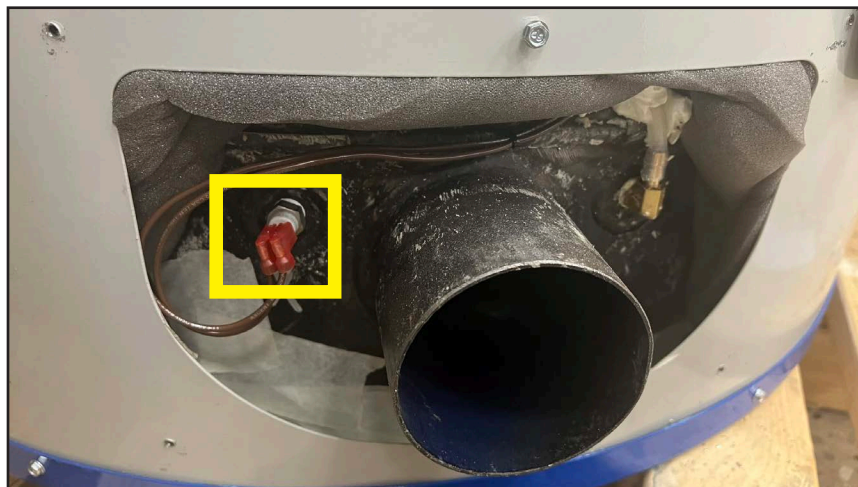

Fig. 26
5. Remove both ¼" flag terminal quick connects from the sensor (Fig. 26).